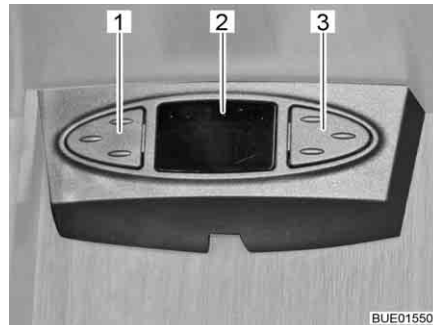

Fig. 25 Satellite mouse
- Choosing the previous channel from the list: Press left button (Fig. 25,1).
- Choosing the next channel from the list: Press right button (Fig. 25,3).
- Switching between radio and TV: Press the buttons (Fig. 25,1 and Fig. 25,3) briefly at the same time.
- Switching the receiver on/off: Press and hold the buttons (Fig. 25,1 and Fig. 25,3) at the same time.